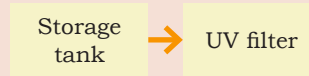

Fig. 5.48
9. Outlet of the UV filter is connected to the inlet of water storage tank as shown in Fig. 5.48.